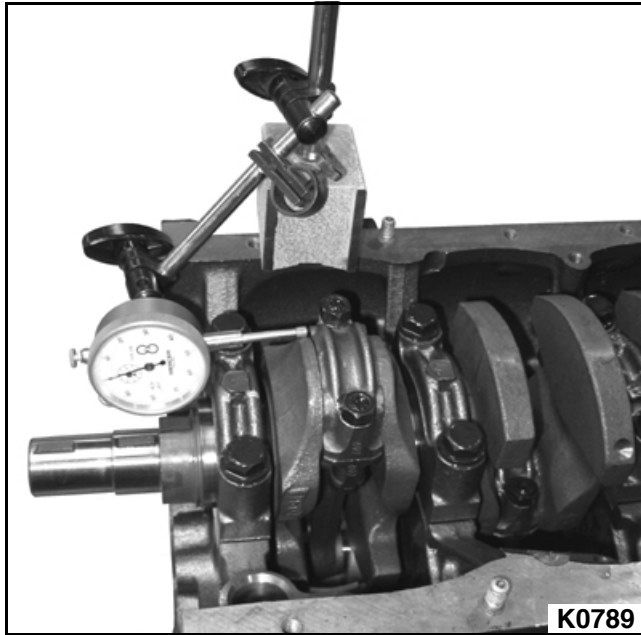

Figure 3-199
1. Using a dial indicator, measure the thrust clearance while moving the connecting rod back and forth. **See Figure 3-199.**